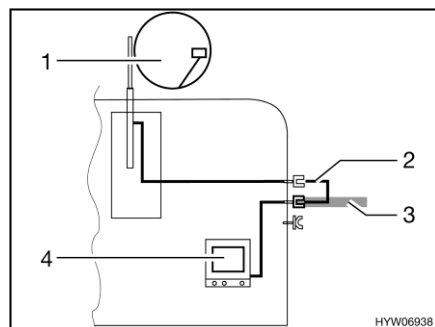

Fig. 147 TV inside the vehicle
- TV inside the vehicle (Fig. 147,4): Connection to roof antenna (Fig. 147,1) with connection cable (Fig. 147,2)
- TV inside the vehicle (Fig. 147,4): Connection to external antenna (Fig. 147,3)